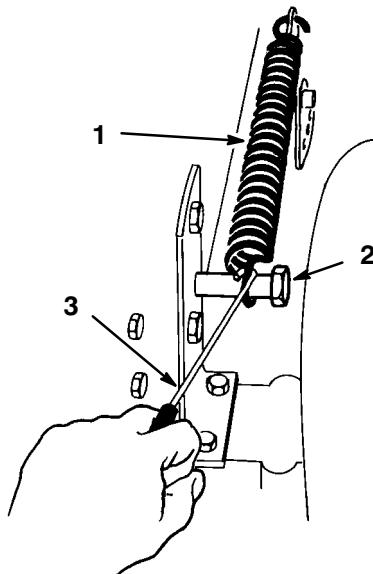

**Figure 48**
13. Thread first jam nut onto the blade control (PTO) cable all the way. Rout cable through slot in deck bracket and thread second jam nut onto cable (Fig. 48).
14. Hook Z end of blade control (PTO) cable into bellcrank arm (Fig. 48).
15. Engage blade control (PTO) lever on dash. Measure distance between Z end of cable and mounting bracket (Fig. 48). Adjust jam nuts so  $3-1/2"$  (89 mm) dimension is obtained (Fig. 48).